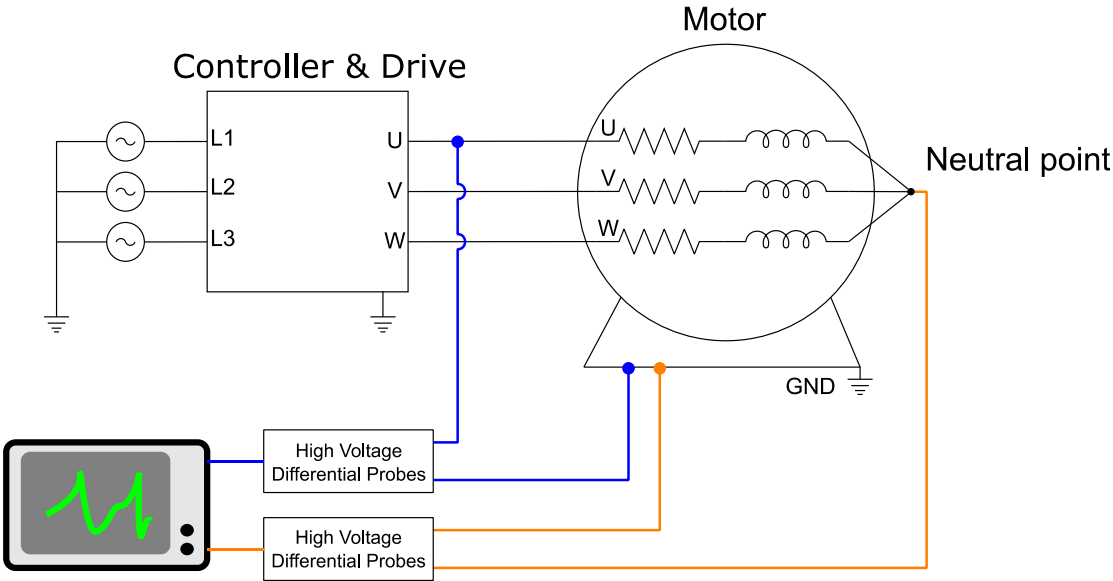

Figure 3.4.11 The wiring diagram of neutral point measurement.
- (1) Disconnect the power supply and protect it from being switched back on.
- (2) Wire according to the wiring diagram (Figure 3.4.11), and use a high-voltage differential probe to connect to the following two points: